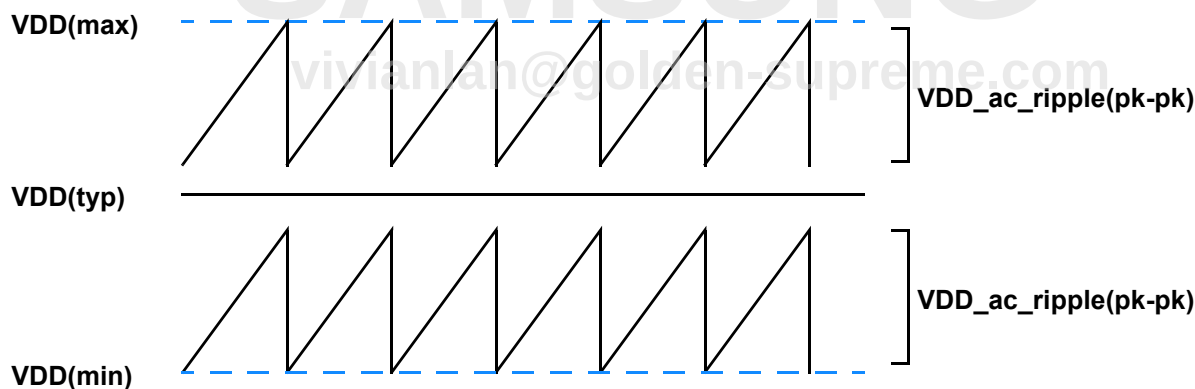

Figure 4. DC Voltage Range
- DC to 2MHz voltage range includes all noise at DRAM ball, both DC and AC ripple fluctuations. This noise is included in the aperture mask defined by VdIVW. Refer to Figure 4.